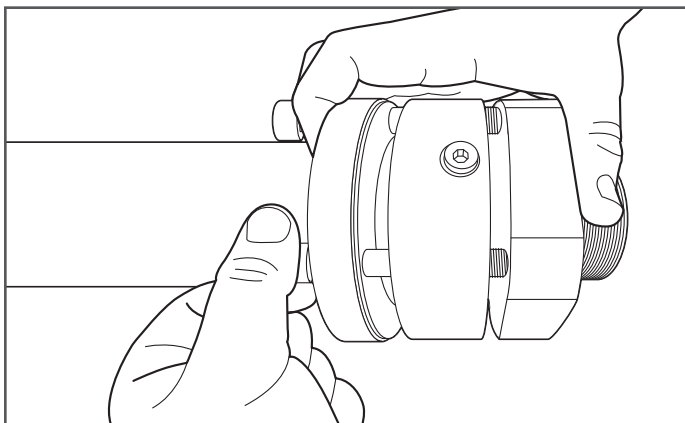

Figure 9-11
11. The DoubleTrac® fitting is ready to reinstall, Follow assembly of DoubleTrac® fitting instructions beginning in section 7 (Figure 9-11).